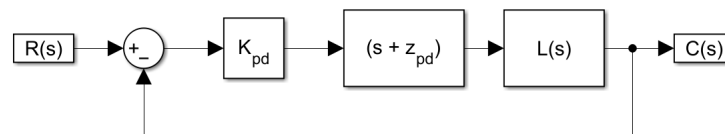

Figure 2: Proportional-Derivative Control.
Consider the PD control design shown in Figure 2. The design goal is to achieve the following closed-loop step response metrics:
- Find a location for the PD controller zero, the value of $z = K_p/K_d$ in Figure 2, so that the root locus passes through the target pole locations. Try the following values for the zero location: $z = [-4, -7, -10]$. For each value of z , plot the root locus and use the `sgrid` command to add a line for $\zeta = 0.707$ (%OS=4.3). You can plot the root locus for each design as a separate window using the `rlocus` command or plot them all on the same axes using the `rlocusplot` command. Which zero location enables satisfying the design constraints? Choose one of the values for the zero location.